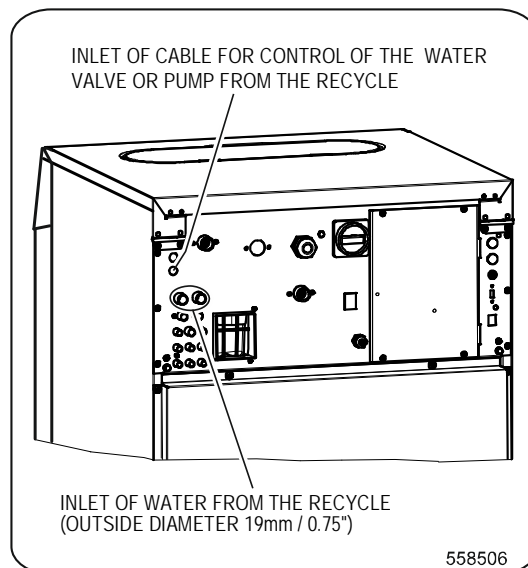

Figure 12
- Drill out the protective screens of the water inlet from the recycle utilizing a drilling bit of 15mm / 0.59" diameter, see Figure 12. We do not recommend piercing the screens open - it could lead to blockage of the water channel.
- Fit a cable bushing into the opening (see Figure 12) and pull the cable through the bushing.